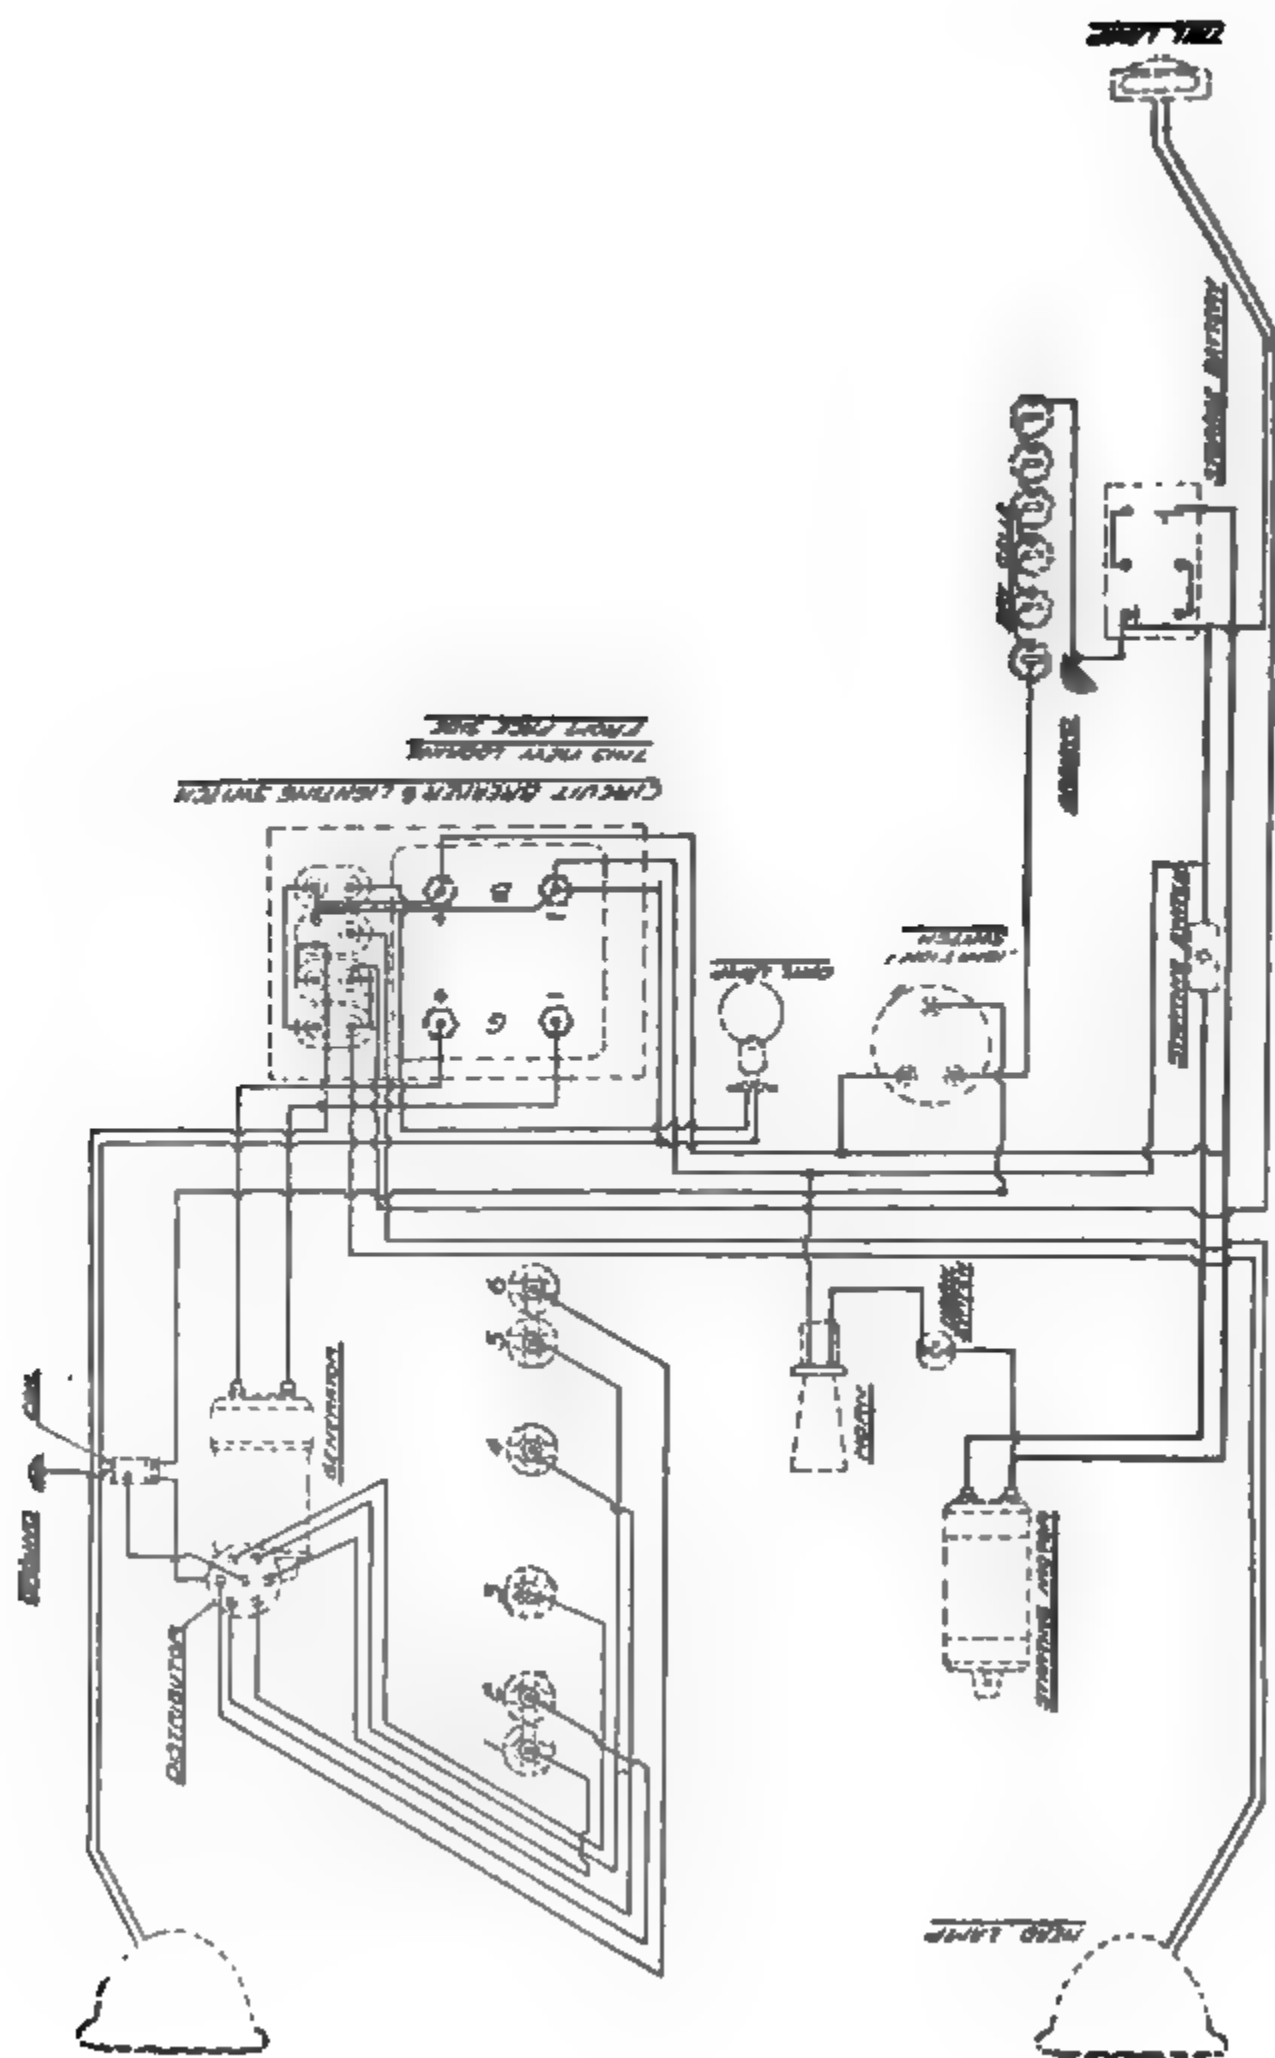

Fig. 296 Wiring Diagram for Leco-Neville System on Haynes Light Six
**Wiring Diagram.** Fig. 295 illustrates the Haynes 1915 installation. While two wires are employed for connecting all the apparatus, it will be noted that the storage battery and the dry-cell battery are grounded by a common ground connection. This is to permit using current from the storage battery for ignition, the corresponding ground to complete the circuit being noted at the ignition coil, close to the distributor. The connections *G* and *B* on the panel board are those of the generator and the battery to the indicating battery cut-out, the connections of three lighting switches being shown just to the right. In Fig. 296 is shown the Leece-Neville installation in White cars.